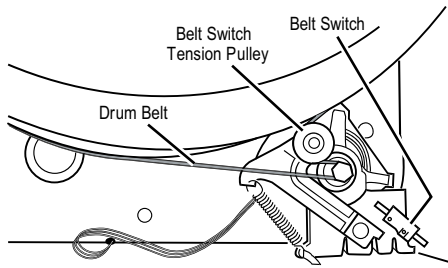

Figure 6. Slowly remove drum belt.
4. Check the belt switch and drive motor. Access the belt switch and drive motor by removing the front panel/drum assembly. See Removing the Front Panel/Drum Assembly. Slowly remove the drum belt from the spring-loaded belt switch tension pulley, gently letting the belt pulley down. See Figure 6 on the next page.